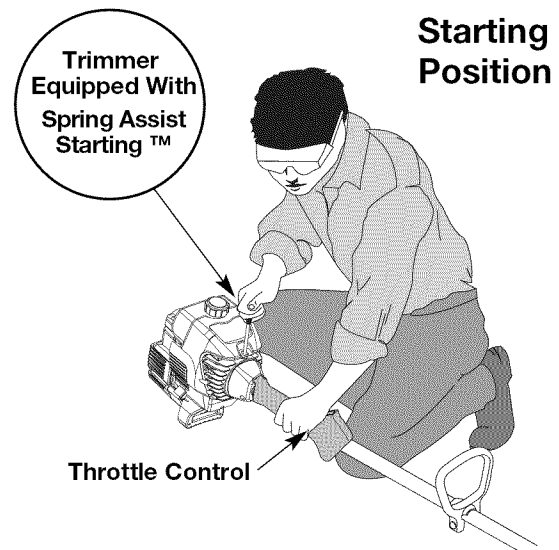

Fig. 11
**WARNING:** Avoid accidental starting. Make sure you are in the starting position when pulling the starter rope (Fig. 11). To avoid serious injury, the operator and unit must be in a stable position while starting.
4. Crouch in the starting position (Fig. 11), squeeze the throttle control, and pull the starter rope out with a **controlled and steady motion** 5 times.